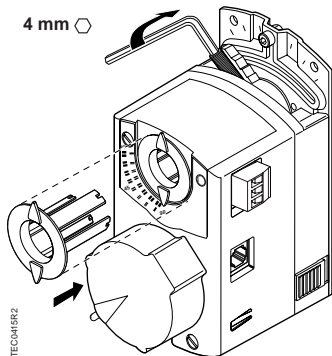

Figure 9. Position indicator and adjustment lever.
7. Install the position indicator, Figure 9.